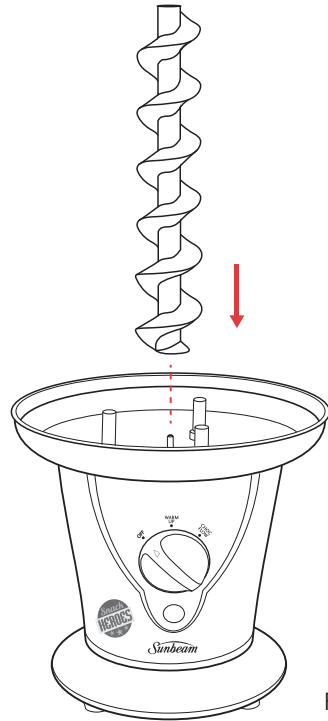

Figure 2
4. Place the base onto a level bench top and place the plastic screw firmly onto the drive shaft. See figure 2.